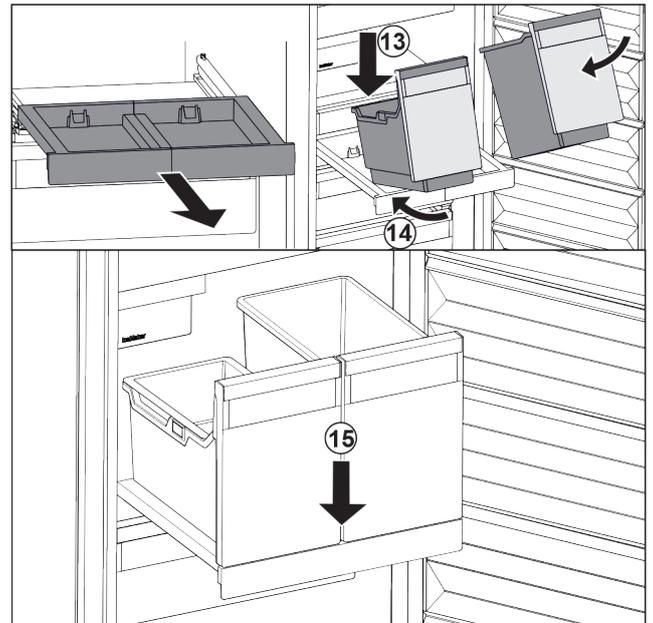

Fig. 29
- ▶ Place the container at an angle on the pull-out board. *Fig. 29 (13)*
- ▶ Slide the container to the back at an angle. *Fig. 29 (14)*
- ▶ Place container in the front. *Fig. 29 (15)*